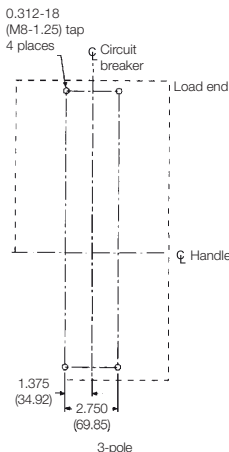
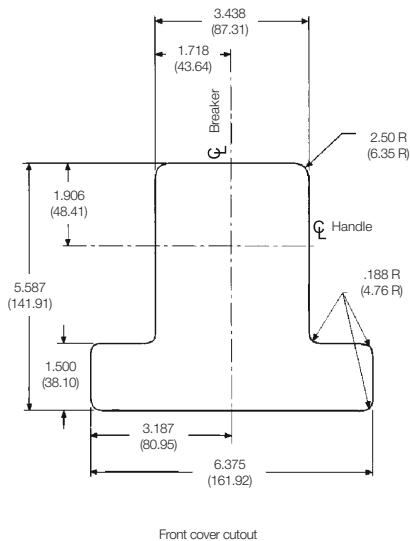

Figure 3: breaker mounting bolt drilling plan - 800 A, 1200 A circuit breaker
Figure 4: circuit breaker escutcheon dimensions
1. For individual surface mounting, drill mounting panel using the drilling plan shown in Figure 3. For dead front cover applications, cut out cover to correct escutcheon dimensions, see Figure 4.